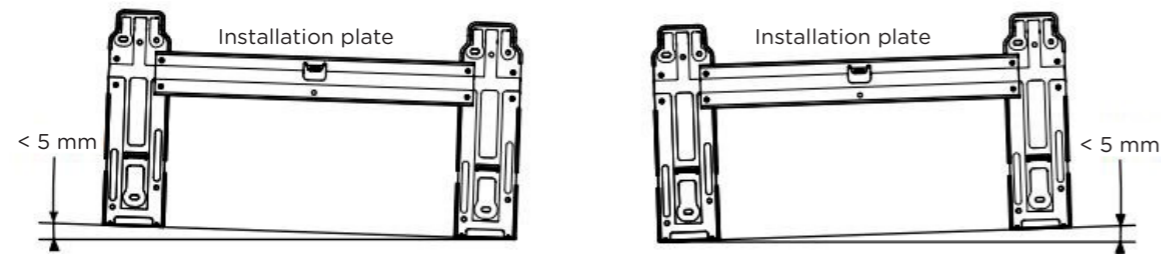

Fig. 4
- Remove the metal installation plate from the indoor unit. Adjust the installation plate to a horizontal position. The height difference between the left and right sides of the installation plate must be less than 5 mm (Figure 4).